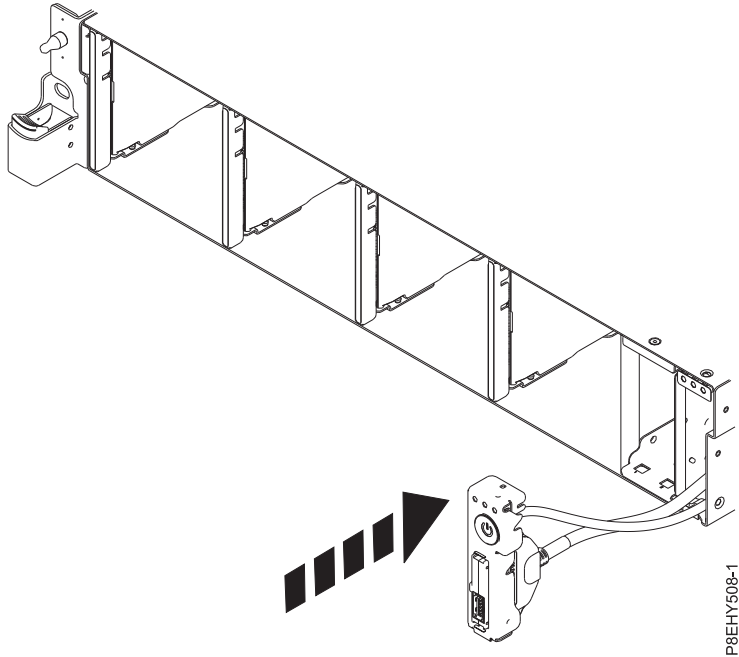

Figure 25. Replacing the front USB cable into the system backplane
4. Insert the power switch and cables into the system. Be careful to route the cables through to the system backplane. See Figure 25 on page 29.